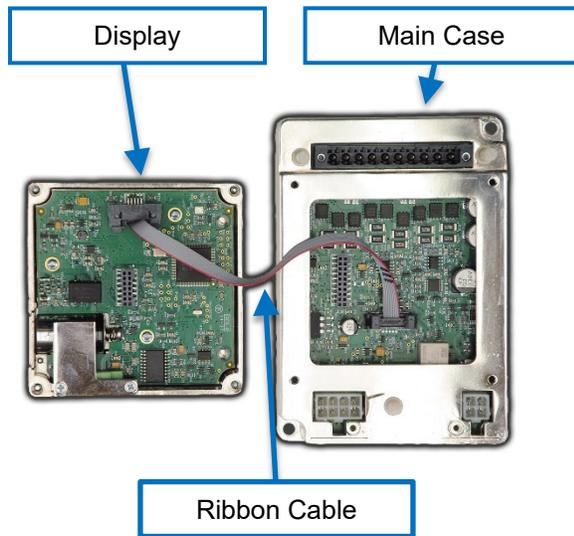

Figure 22.2: Trip Unit and Display (separated)
- Remove the black wiring cover by pulling the wiring cover off the three (3) standoff posts.
- One (1) Ribbon cable. See Figure 22.2.